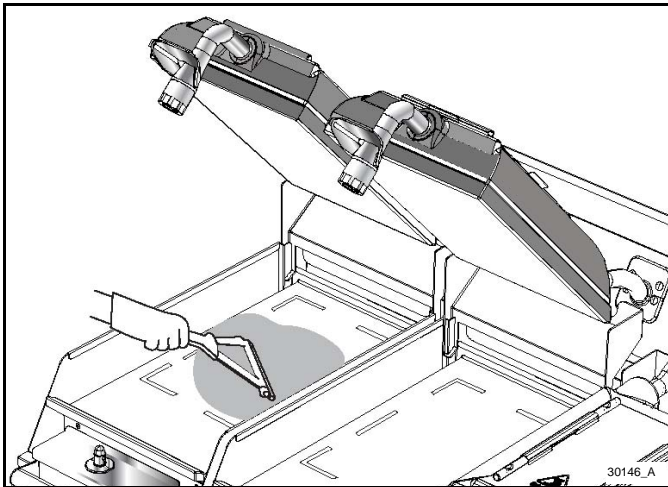

Figure-36
- Using a clean squeegee, spread the flakes on the cooking zone. See Figure-36.